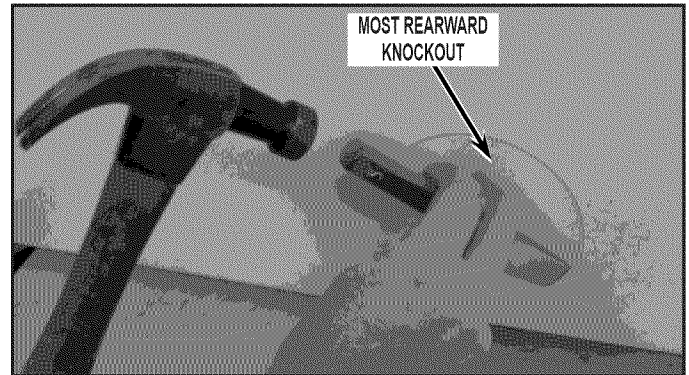

FIGURE 21
- To remove the most rearward right side knockout, use either a 1/8" drill bit and drill or a cold chisel and hammer, remove the six (6) knockout retaining tabs around the edge. See *Figure 21*.